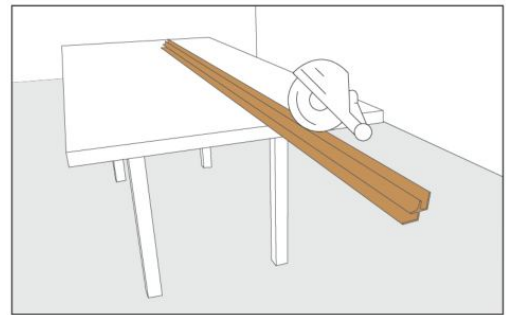

Fig.2
- Transfer this measurement to the internal corner trim, that cut circular saw.(Fig.2)